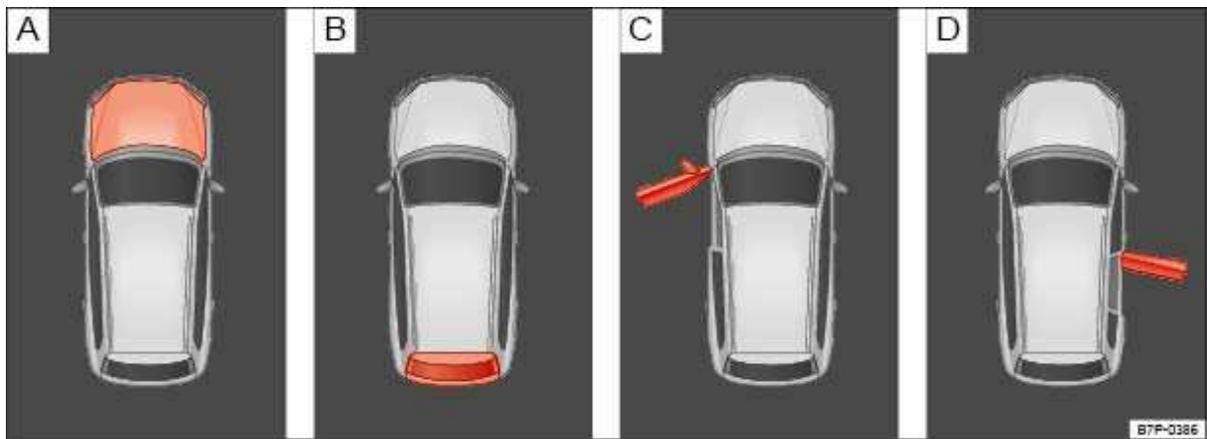

Fig. 12 In the instrument cluster display: A: Open engine hood, B: Open rear hatch, C: Open front driver side door, D: Open rear passenger side door.
- Open door, engine hood, or rear hatch ⇒ fig. 12.